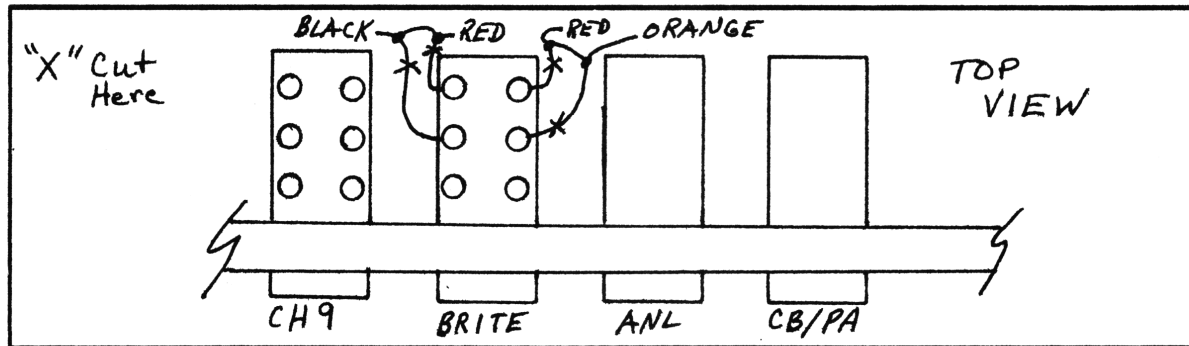

FIGURE 1. AR44/25GTL
5. REFER TO FIGURE 1. SOLDER THE RED AND ORANGE WIRES TOGETHER AND TAPE.